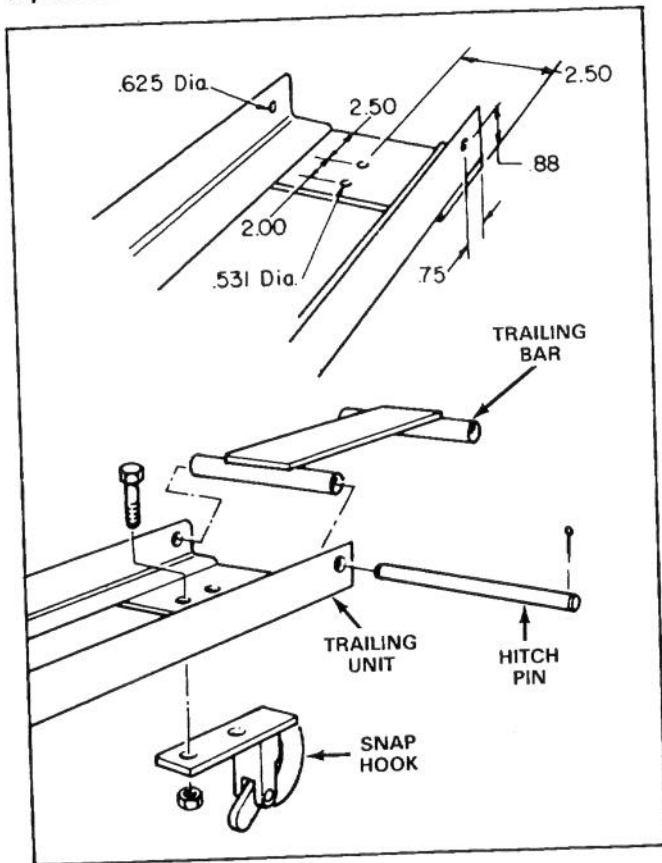

Figure 8
1. Locate and drill required mounting holes in trailing units, wing units, and 9 Unit center frame (Fig. 8, 9, 10).
2. Install kit parts to trailing unit by mounting trailing bar to rear of frames with hinge pin and (2) cotter pins. Secure snap hook to underside of frame with (2) capscrews and locknuts (Fig. 8).